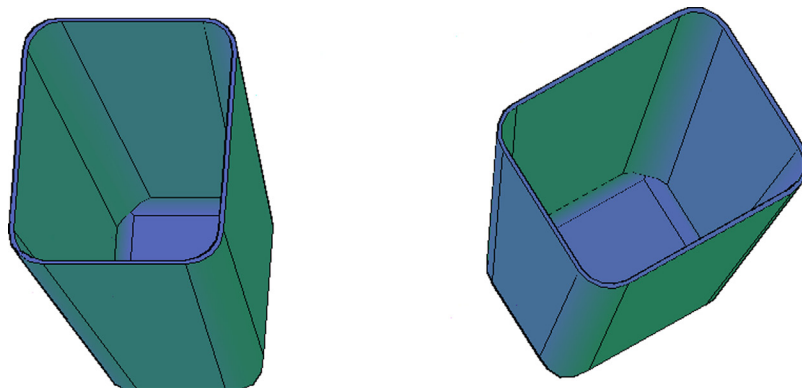

FIGURE 24.21
Step 4. Shell the wastebasket to a 0.35" thickness, as seen in Figure 24.21.